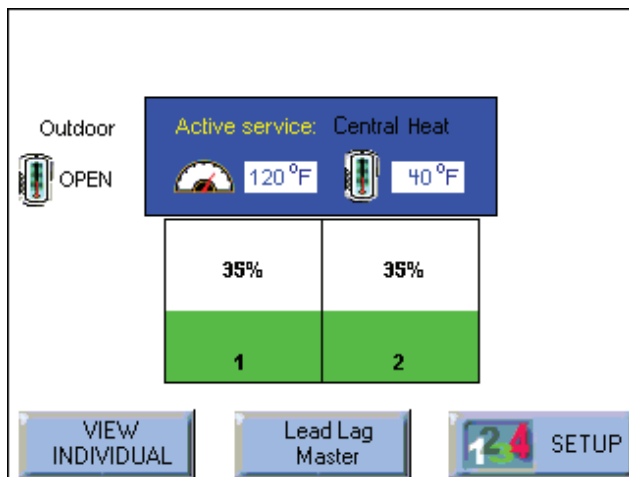

Fig. 29 - Lead/Lag Screen
2. Press the View Lead Lag button to go to a screen that shows the status of the whole Lead/Lag system. See Fig. 29.
1. From the Lead/Lag screen (Fig. 29), press the button for Lead/Lag Master.